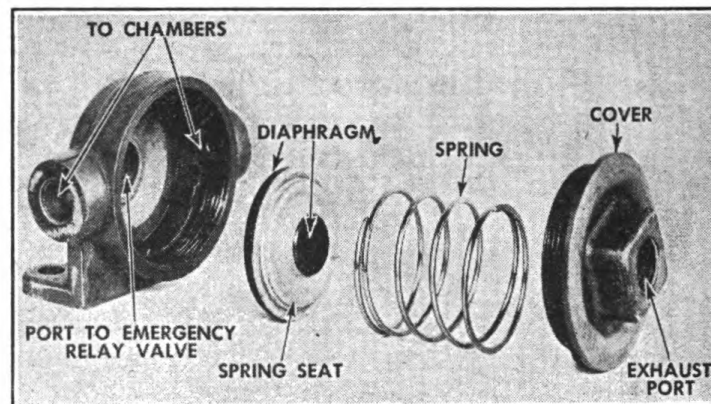

FIGURE 46. QUICK RELEASE VALVE.
(2) The quick release valve is operated by air pressure from the brake valve entering into the cavity above the diaphragm. As the air pressure enters this cavity it forces the exhaust seat of the diaphragm against the edges of the exhaust port, sealing the exhaust and permitting the air pressure from the brake valve to pass to the brake chambers. As the brake valve is released the air pressure and the force of the spring lift the diaphragm, removing the exhaust seat from the exhaust port and releasing the air pressure accumulated in the brake chambers to atmosphere.
c. Disassembly.—This valve can be disassembled without removing unit from trailer. Screw off cover, remove spring and lift valve assembly out (Fig. 46).